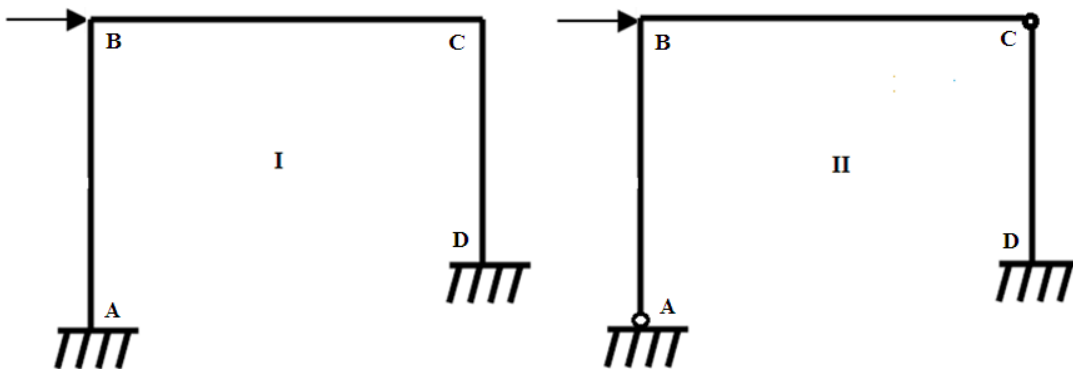

Figure Q1B
- (ii) Figure Q1B shows two frames. Sketch the deflected shape of each and explain the differences observed. [6]